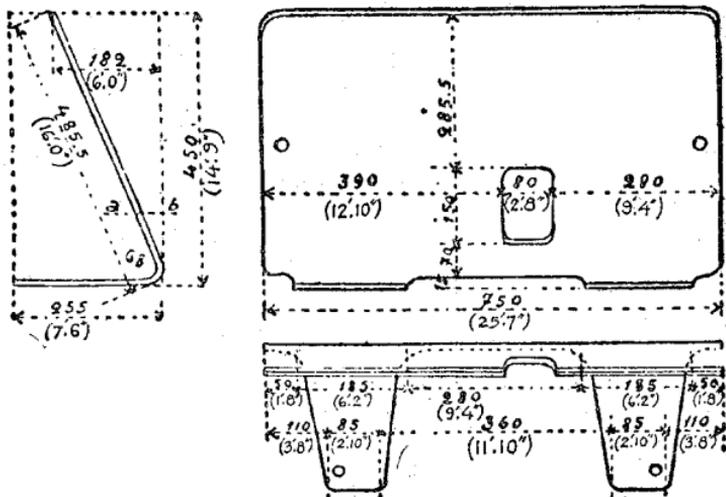

FIG. 150.—Individual parapet shield.
2. Individual parapet shields (fig. 150).—Of special sheet steel, used in the trenches either as a head shield with loophole